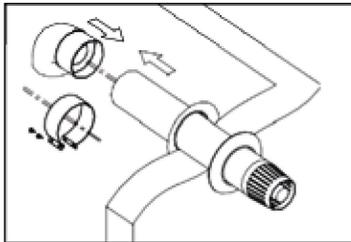
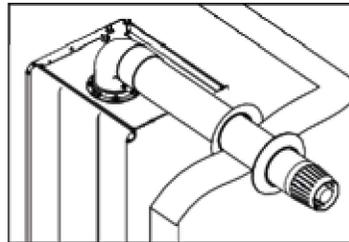
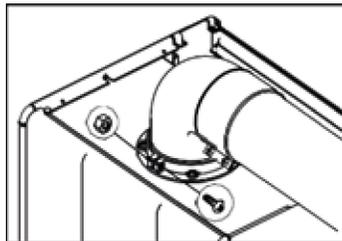

Figure 9c
Figure 9d
Figure 9e
- In order to group the flue outlet terminal, apply the exterior wall (EPDM) gasket to flue terminal as seen in Figure 9c. After passing the flue outlet terminal through the exterior side of the wall and from the previously opened hole, connect the interior wall connection gasket to flue terminal. Apply the other end of the EPDM connection gasket of your combi boiler –which is applied to flue bend of 90°- to the flue outlet terminal, and apply the clamp on the EPDM connection gasket and loosely tighten it with screw (Figure 9d). And then place the bend of 90° on the flue connection flange, and fix with tightening screws (Figure 9e). Finally, after tightening the screws which are placed on EPDM gasket and which are left loose, enable the flue and wall tightness by pushing the interior wall connection gasket as to touch the wall.